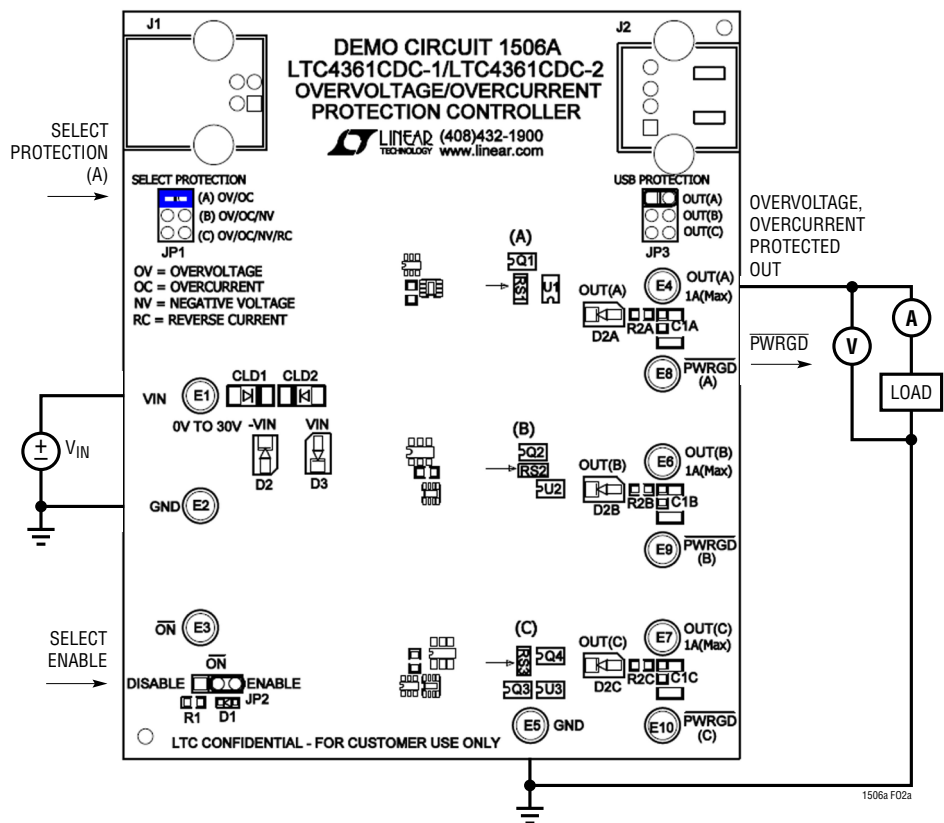

Figure 2a. DC1506A Protection (A) Setup for Overvoltage and Overcurrent
- a. For overvoltage and overcurrent protection select (A) OV/OC and connect to OUT(A). Figure 2a.